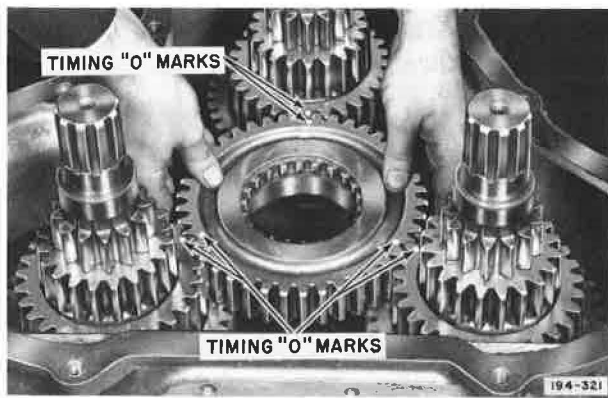

Figure 5-190. Installing Mainshaft Third Speed Gear
3. Place transmission front case in a vertical position. Install mainshaft third speed gear so that the three alignment "O" marks on face of gear mate with the alignment "O" marks on the countershaft third speed gears. See Figure 5-190.